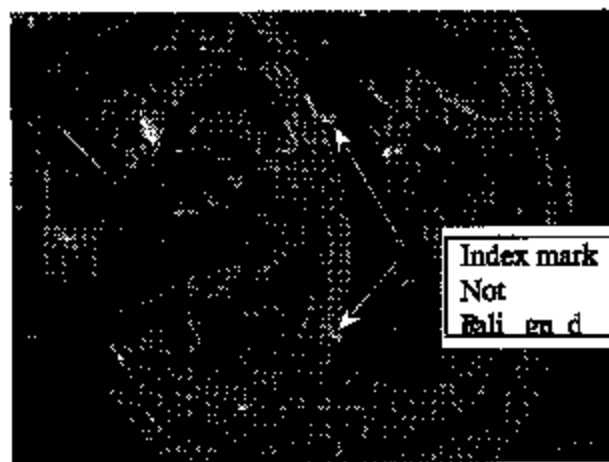

Figure 2
3. Raise the rear wheel off the ground. Because all 1 $\frac{1}{2}$  drive belt models use a 130 tooth drive belt in conjunction with a 65 tooth rear pulley, any given tooth in mesh between the rear pulley and the belt will be aligned every two (2) revolutions of the rear drive pulley. With the transmission in neutral, rotate the rear wheel to see if the index marks made in step #1 realign with each other every second revolution of the pulley. If they do not realign, the drive belt has ratcheted on the pulley. See Figure 2. **NOTE:** The distance between the pulley and belt index marks will of course vary if ratcheting has occurred.